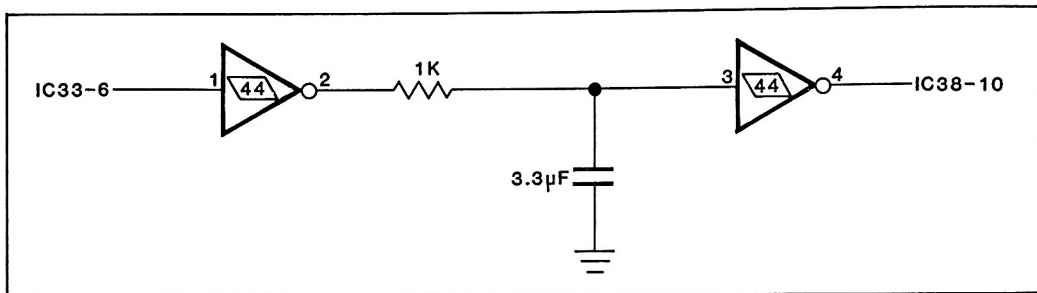

Figure 6
5. Add the following jumpers (Figure 6):